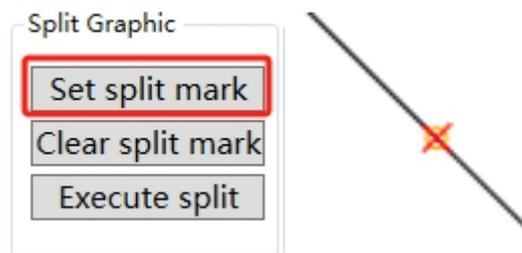

Fig. 5.6.7c Set Split Mark
② Click the "Set split mark" button, and this mark will be displayed in red with a cut-off line. As shown in Fig. 5.6.7c below.